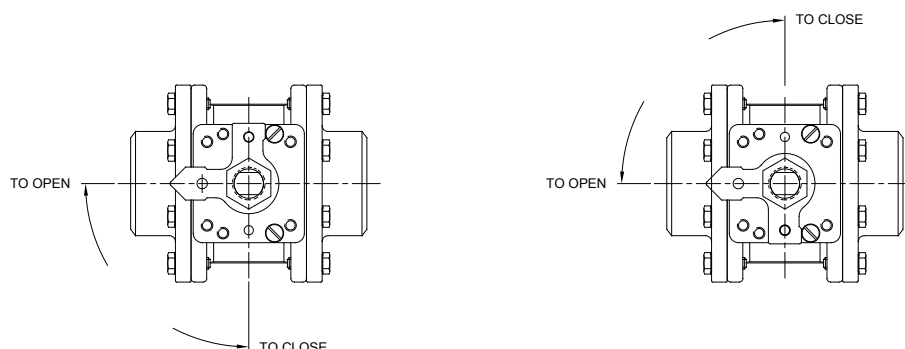

Fig. 4
5.2.2 For valve sizes 2 1/2" thru 4" there is a separate lock plate/indicator and valve lock-off is achieved by using a padlock or other suitable locking device. The handle is simply rotated provided no locking device is in place. There are two stop pins per assembly which can be relocated along with the stop plate to give opposite rotation (see fig. 4) and different start positions. The basic valve operation is essentially the same as that listed in 5.1.2 except the direction of operation can be altered.
- 5.3.2 For valve sizes 2 1/2" thru 4" there is a separate lock plate/indicator and valve lock-off is achieved by using a padlock or other suitable locking device. The handle is simply rotated provided no locking device is in place. There is one stop pin per assembly which can be relocated along with the stop plate to give opposite rotation (see fig. 4) and different start positions. The basic valve operation is essentially the same as that listed in 5.1.2 except the direction of operation can be altered.